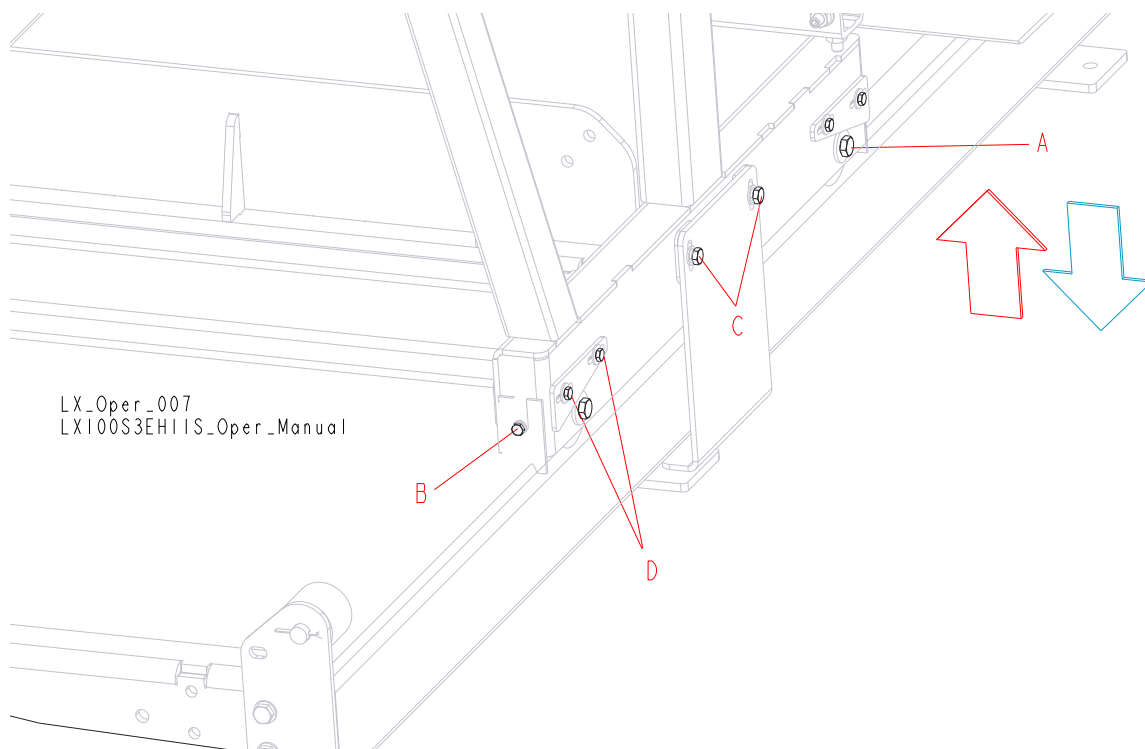

FIG. 2-2
See Figure 2-2. When the blade is parallel to bed, it will measure the same distance from the bed rail at the inside and outside of the saw head. If not, adjust the saw head tilt. First, loosen two roller bolts (A), two scraper mounting bolts (B) and two mast retaining bracket bolts (C). To adjust the